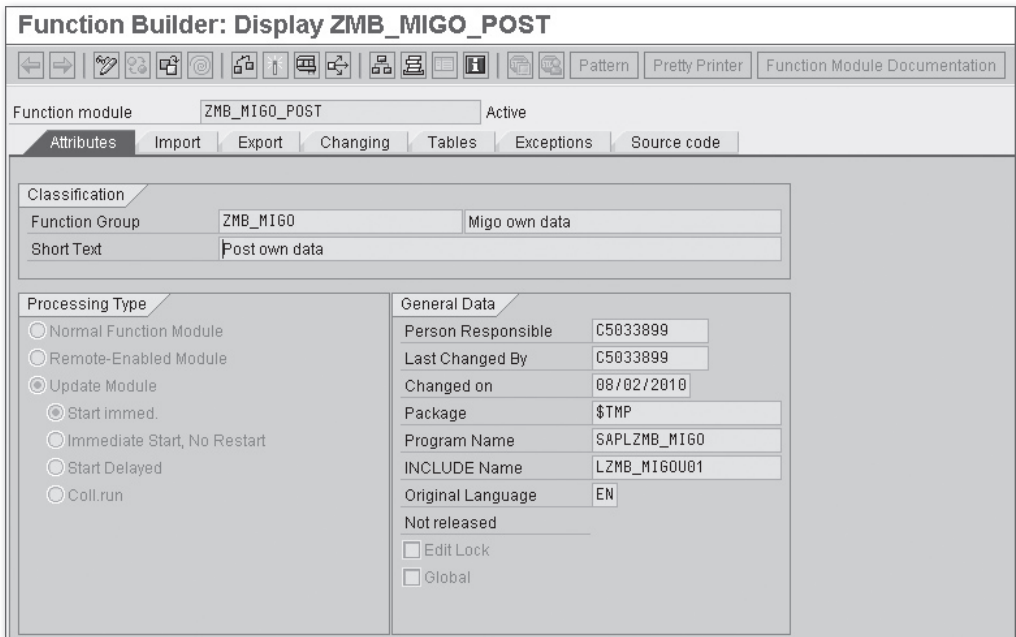

Figure 5.3 Properties of the Update Module
4. Create the function module ZMB_MIGO_POST. The module must be marked in the PROCESSING TYPE section as an UPDATE MODULE (START IMMED.) (see Figure 5.3).